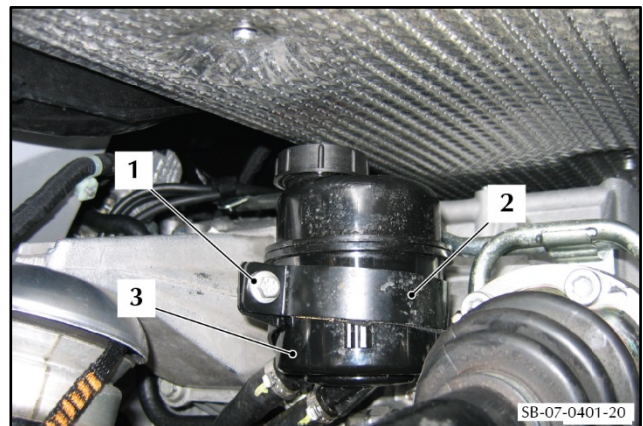

Figure 22
33. Remove the screw (1) to release the clamp (2) that attaches the fluid reservoir (3) (refer to Figure 22).
34. Remove the clamp (2) and move the reservoir (3) away.